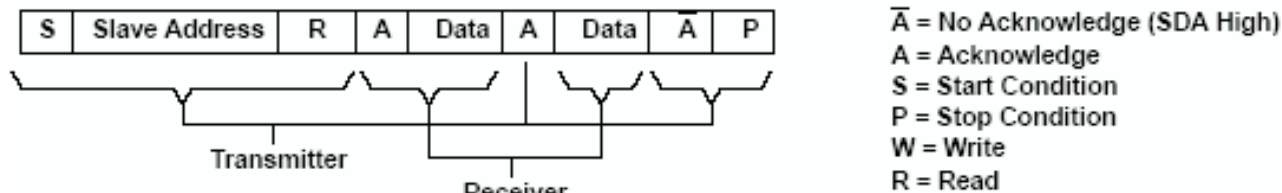
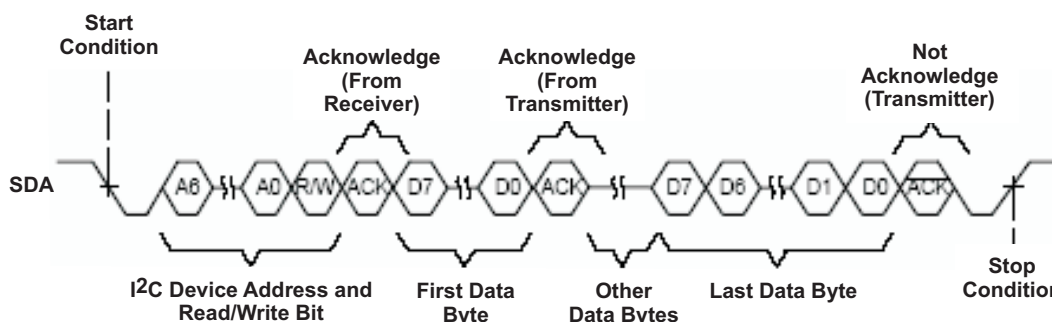

Figure 35. I²C Read Cycle
Figure 36. Multiple Byte Read Transfer
address. Following this initial acknowledge by the slave, the master device becomes a receiver and acknowledges data bytes sent by the slave. When the master has received all of the requested data bytes from the slave, the not acknowledge (A) condition is initiated by the master by keeping the SDA signal high just before it asserts the stop (P) condition. This sequence terminates a read cycle as shown in Figure 35 and Figure 36. See **Example – Reading from the SN75DP122** section for more information.
The SN75DP122 operates using a multiple byte transfer protocol similar to Figure 36. The internal memory of the SN75DP122 contains the phrase *DP-HDMI ADAPTOR*<EOT> converted to ASCII characters. The internal memory address registers and the value of each can be found in Table 3.